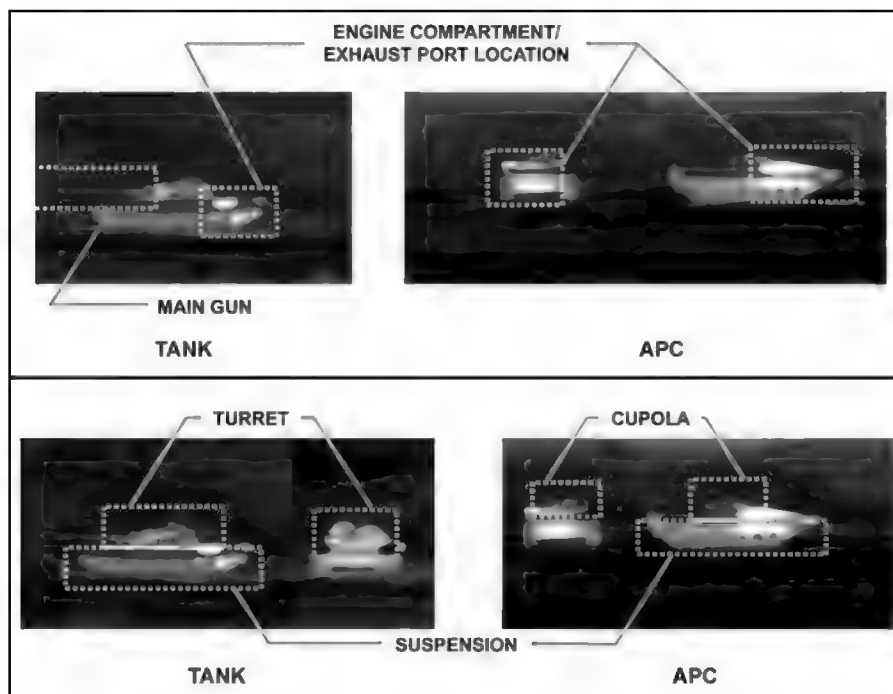

Figure 4-25. Target classification (tank/APC).
a. **Tanks.** The characteristics of a tank make this vehicle stand out from others. The large gun tube, the five to seven road wheels, and the engine compartment being in the rear of the vehicle, all make this easily recognizable as a tank. (Figure 4-25)